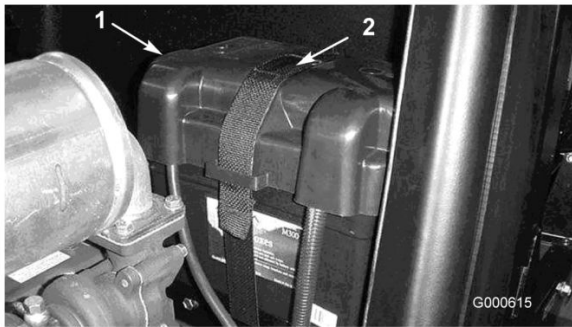

Figure 41
2. Remove the battery strap and cover (Figure 41).